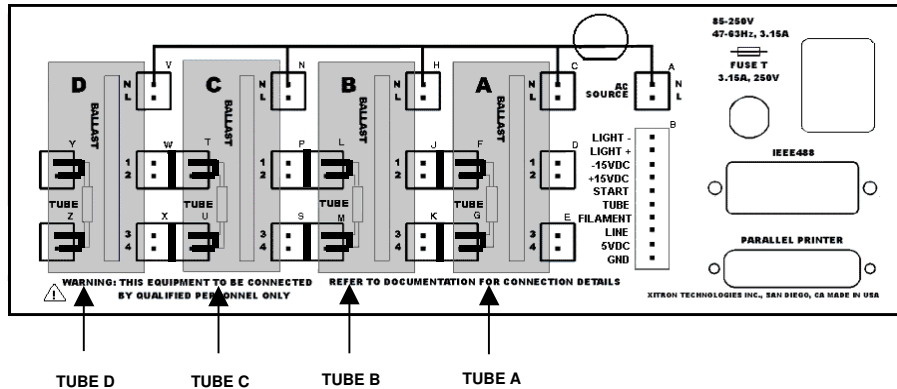

Figure 8. Two-pin Load Connections
When only two-pin ballasts are being used, then connect the tubes as shown in *Figure 8* and described below.
1. Connect each load to all four tube connections in each section of the rear panel, similarly to the illustration shown in *Figure 8*. Each end of the load is connected to two connections on the rear panel (i.e., wire one end of the tube to pins 1 and 2 and the other end to pins 3 and 4).